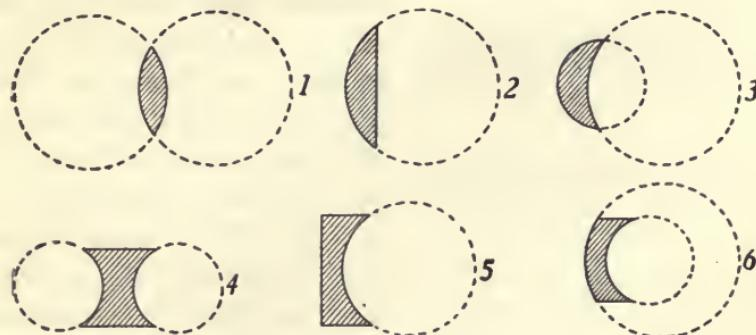

FIG. 377.—Forms of Lenses. 1. double convex; 2. plano convex; 3. concavo convex; 4. double concave; 5. plano concave; 6. convexo concave.
The mode of constructing the six forms of spherical lenses is shown in Fig. 377. These are named as follows: (1) double convex, (2) plano convex, (3) concavo-convex, (4) double concave, (5) plano concave, (6) convexo-concave.